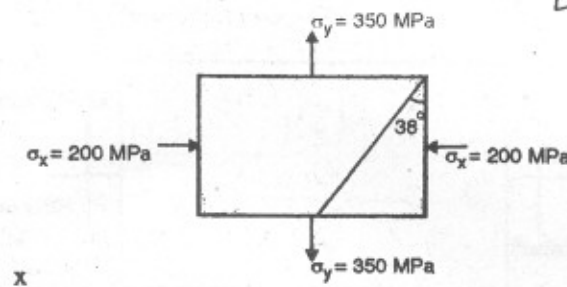

Fig. 6
- (b) At a point in a strained material, the principal stresses are 200 MPa (compressive) and 350 MPa (tensile). Determine the intensity of normal tangential and resultant stresses on a plane inclined at  $38^\circ$  to the plane carrying 200 MPa stress. Solve by Mohr's circle method. (Ref. Fig. 6) 8